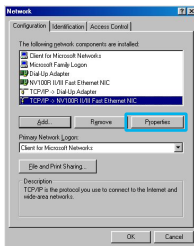

Figure 2
3. Select **TCP/IP** in the 'The following network components are installed' list and click **Properties**. (Figure 2)